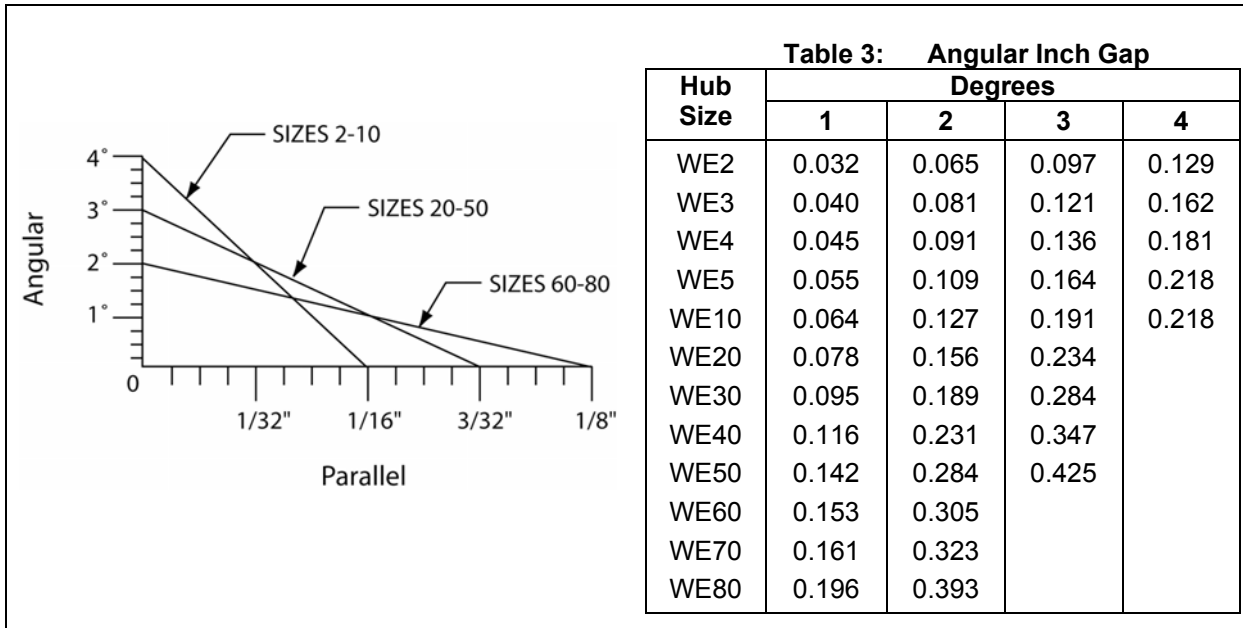

Figure 10: Maximum Allowable Misalignment for Wood's Duraflex®¹ Couplings
5. The hubs should be aligned to at least the values shown in Figure 10 for allowable misalignments. Alignment may be done with lasers, dial indicators, or with a straight edge and calipers.
- Recheck the hubs to be certain both angular and parallel alignments are still within the values given in Figure 10.